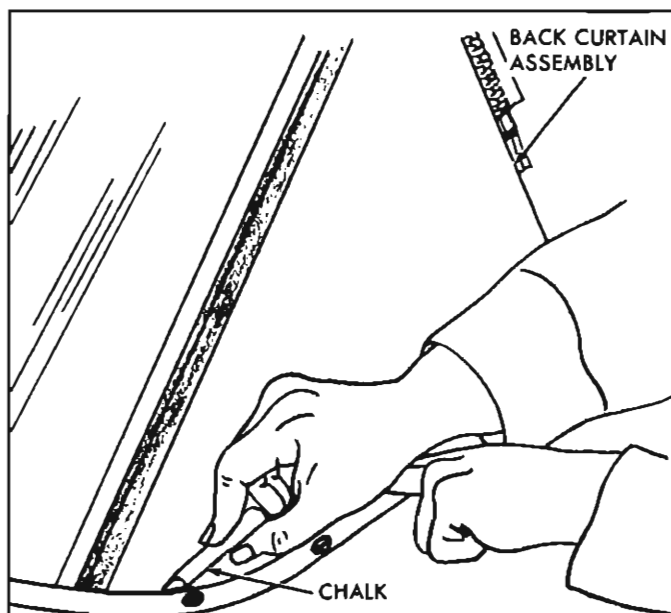

Fig. 54—Marking Back Curtain
outer surface of back curtain along pinchweld finishing molding. Readjust back curtain assembly as required (fig. 54).
3. Where required, place reference chalk mark on outer surface of back curtain along pinchweld finishing molding. Detach rear trim stick with attached back curtain assembly from body. Re-adjust back curtain assembly as required (fig. 54).